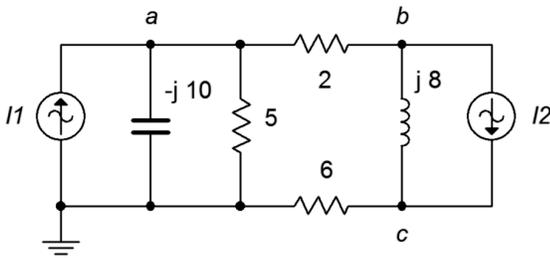

Figure 5.11
21. In the circuit of Figure 5.11, Use Superposition to find  $v_{bc}$ .  $I_1 = 10\angle 0^\circ$  and  $I_2 = 6\angle 0^\circ$ .
22. In the circuit of Figure 5.11, Use Superposition to find the current flowing through the 2  $\Omega$  resistor.